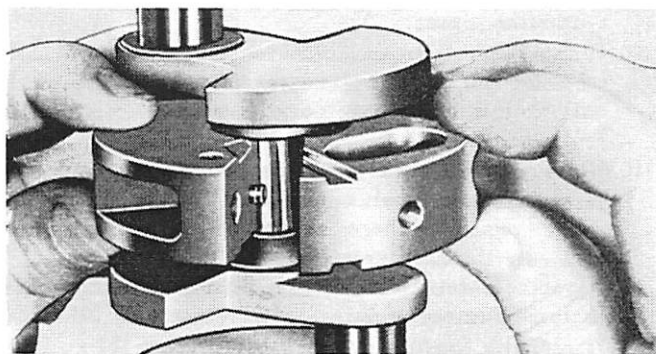

Figure 8. Removing Center Main Bearing
7. After crankshaft is free of crankcase, center main bearing can be removed from crankshaft by removing 2 Phillips screws which hold 2 halves which make up bearing assembly. (Figure 8)